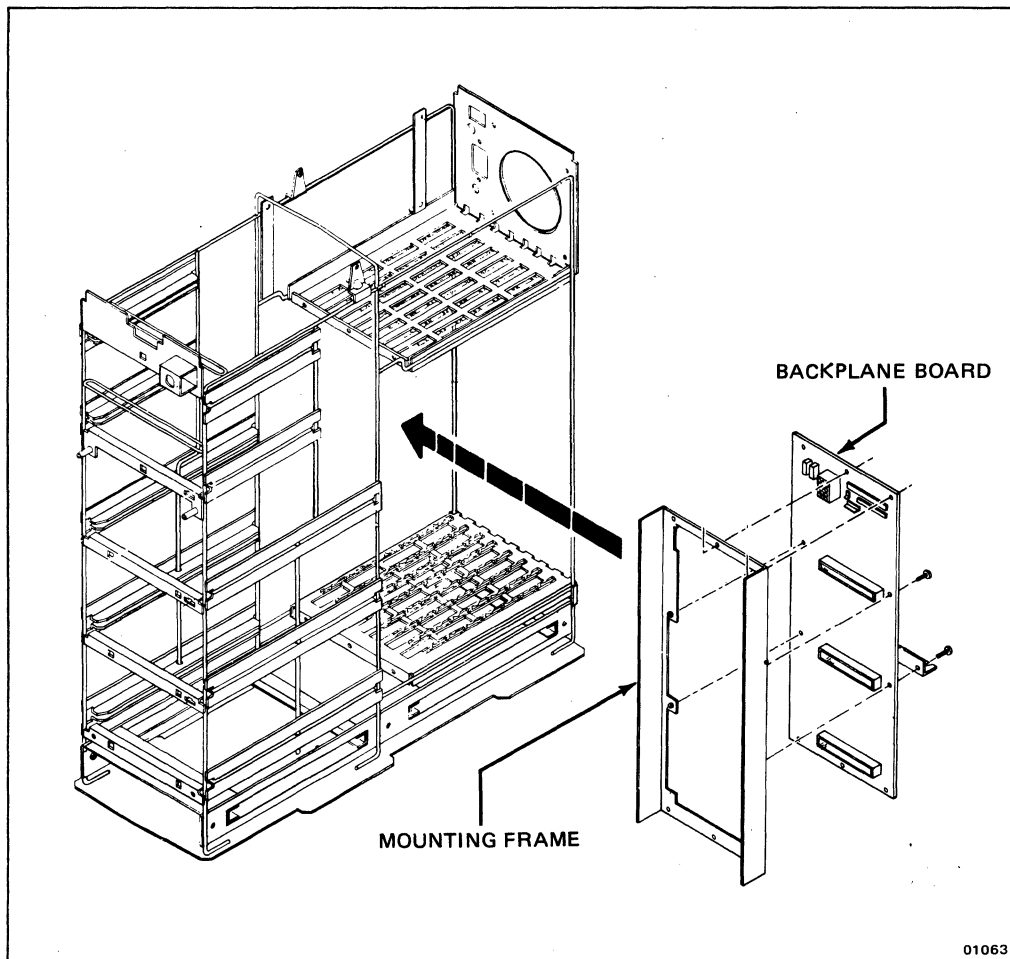

Figure 6-11. Removing/Replacing the Backplane Board
Perform the following procedure to remove/replace the backplane board (see Figure 6-11 and 6-12):
7. Use a #2 Phillips screwdriver to remove the three top and three bottom screws and washers securing the backplane board with its mounting frame to the chassis as shown in Figure 6-11.